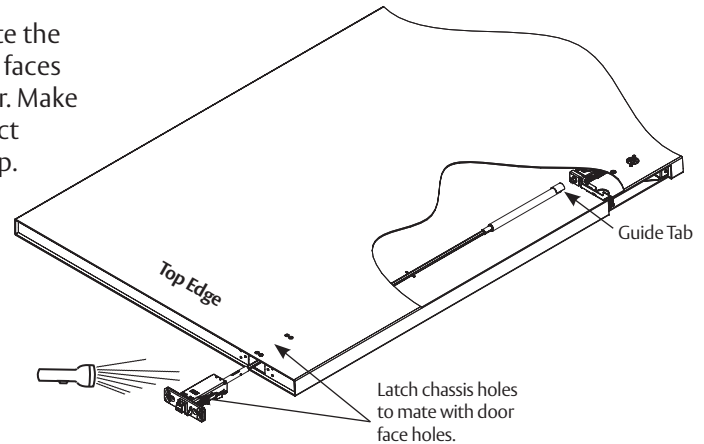

Figure 38
1. Orient the latch chassis as shown. Rotate the rod and rod guide so the rod Guide Tab faces up. Slide the rod assembly into the door. Make sure the rod guide remains in the correct orientation with the Guide Tab facing up. (Figure 38)